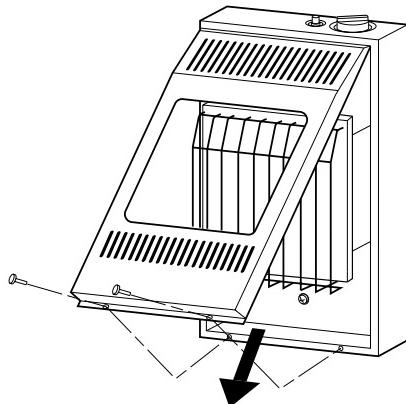
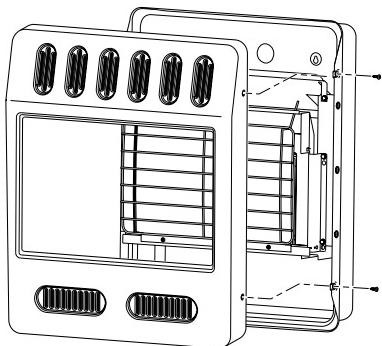

Figure 11 - Removing Front Panel Of Heater
Figure 14 - Removing Front Panel Of Heater
1. Remove front panel of heater [for 10,000 Btu/Hr (2.9 KW) heater, see Figure 11 page 9 or for 20,000 Btu/Hr (5.9 KW) heater see Figure 14, page 10].